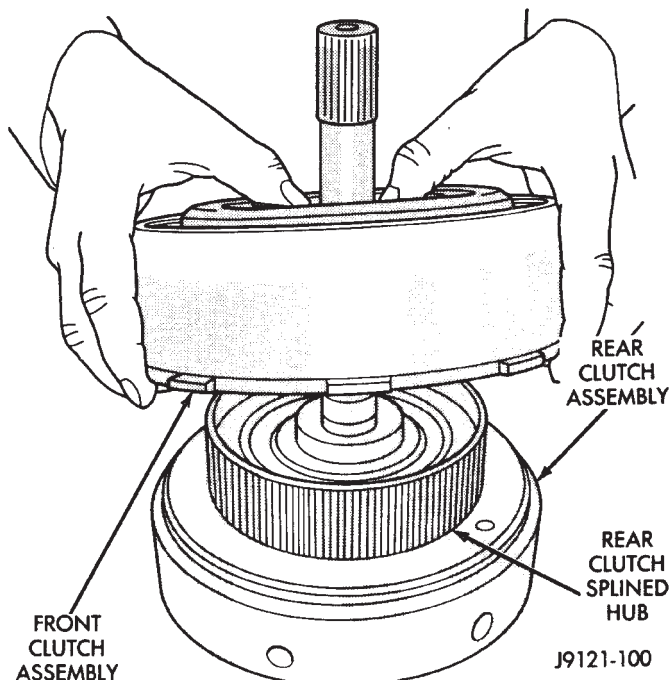

Fig. 134 Assembling Front And Rear Clutches
(5) Assemble front and rear clutches (Fig. 134). Align lugs on front clutch discs. Mount front clutch on rear clutch. Turn front clutch retainer back and forth until front clutch discs are fully seated on rear clutch splined hub.